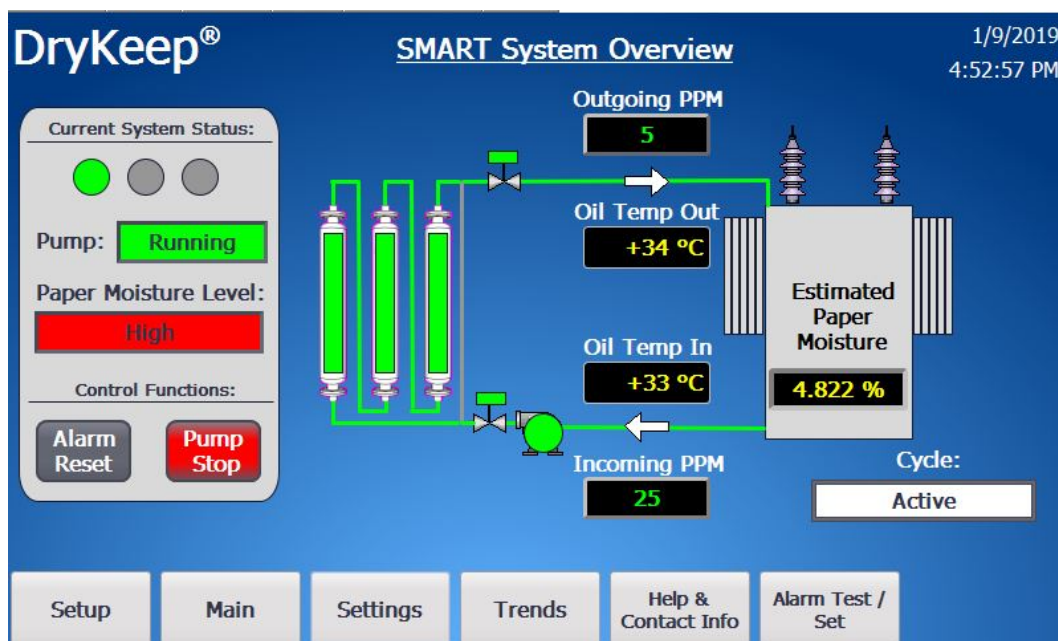

Figure 10: Main screen in Active Cycle for “wet” transformers
- 12) For transformers that are in-service and are considered “wet”, selecting “NO” will start the SMART DryKeep system in the “Active” cycle. The SMART display will go to the Main screen shown in Figure 10 on the next page.